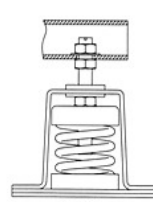

figure 9
- 8、 To tighten the locking nut 1 and gasket 2 of the rod as figure 9.